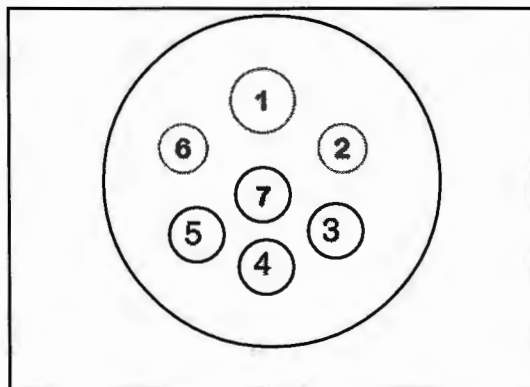

Fig. 13-1 - Terminal Outlet Diagram
10. **Seven-Terminal Outlet -** This outlet is used to connect lights, turn signals and other remote electrical equipment on trailers or implements to the tractor. (See Fig. 13-1).